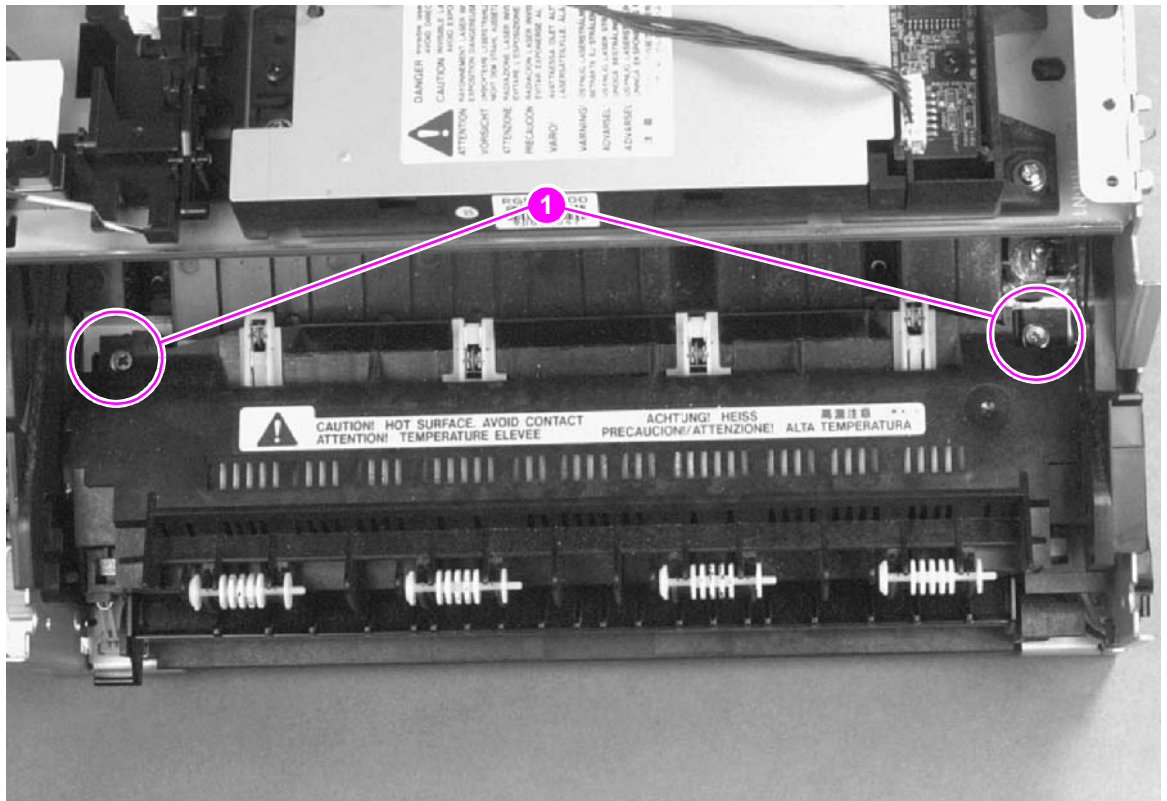

Figure 6-10 Delivery Assembly removal (2 of 2)
- 3 Use the magnetic screwdriver to remove the (2) screws (Figure 6-10, callout 1).